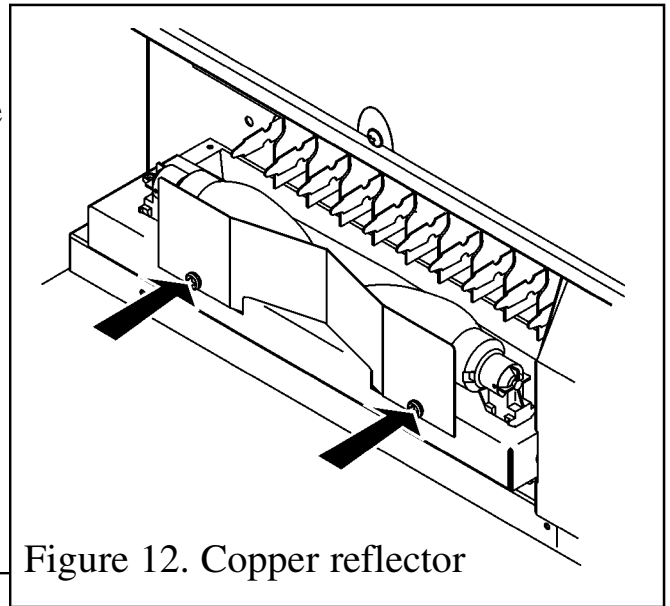

Figure 12. Copper reflector
3. Unscrew and remove the copper reflector plate (See figure 12).